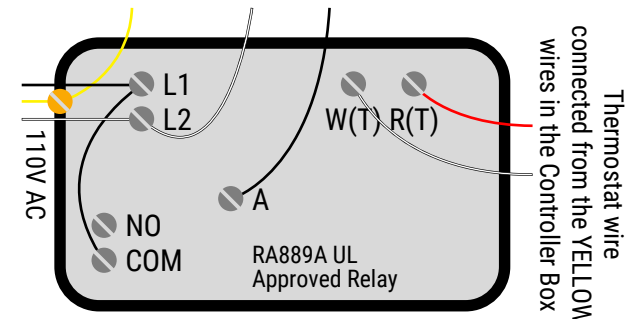

Fig. 22
- **Single Fixture Connection (Fig. 22):**